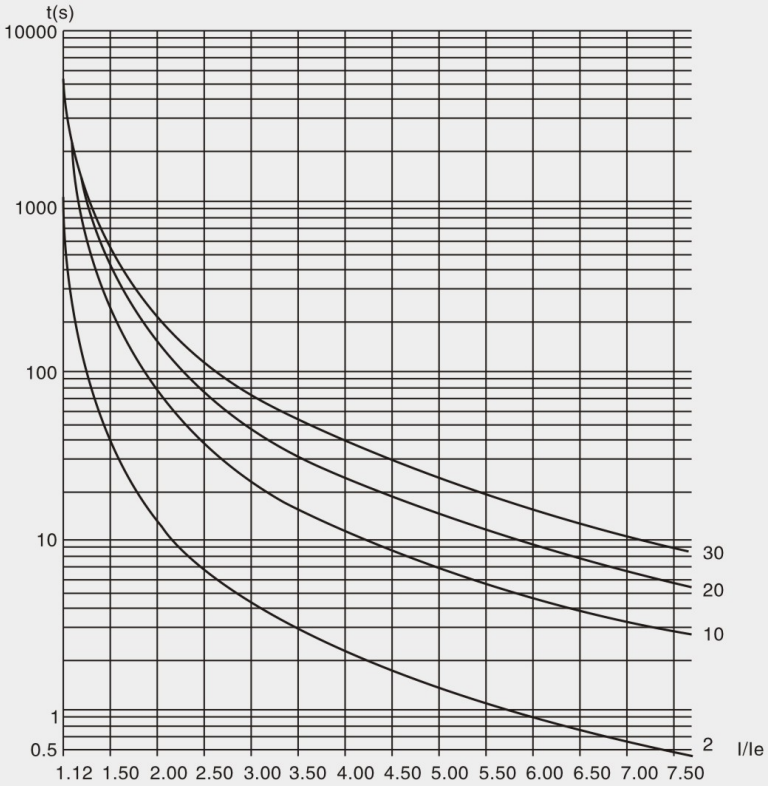

Fig 7.7
- Light load, standard and heavy load three protection level have complete protection function, the difference is different motor overload protection time curve. The motor thermal protection time parameters check the below table and fig 7.7.